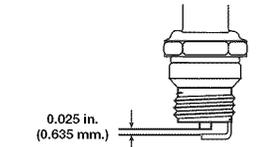

Fig. 39
1. Stop the engine and allow it to cool. Remove the six (6) screws on the back of the engine cover with a Flat-head or T-25 Torx screwdriver (Fig. 39).
4. Replace cracked, fouled or dirty spark plug. Set the air gap at 0.025 in. (0.635 mm.) using a feeler gauge (Fig. 39).